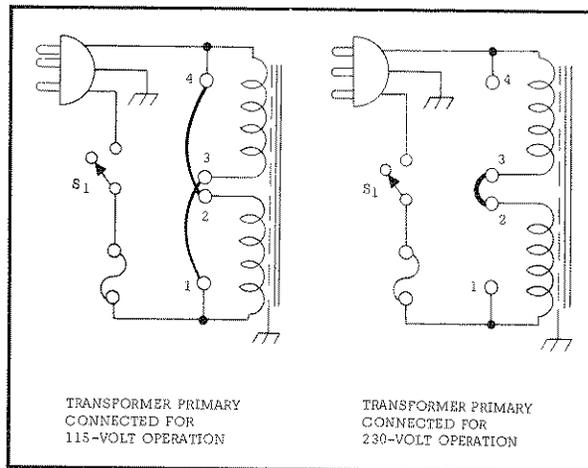

Figure 2-3. Input Power Transformer, Connections
## 2-17 CONNECTIONS FOR 230 VOLT OPERATION (Figure 2-3)
- b. Remove the jumpers between taps 4-2 and 3-1. Solder a jumper between taps 3-2 on the input power transformer T1, see Figure 2-3.